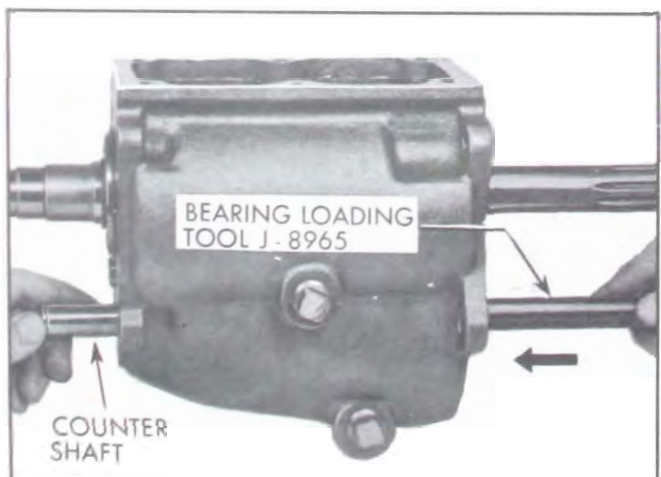

Figure 4-17—Installing Loading Tool J-8965
6. Drive countershaft rearward with a brass drift until shaft is just free in front shaft bore of case. Using Bearing Loading Tool J-8965, push out countershaft, making sure loading tool is tight behind countershaft at all times. Allow countergear to drop to bottom of housing with loading tool in place to keep bearing rollers and thrust washers intact. See Figure 4-17.